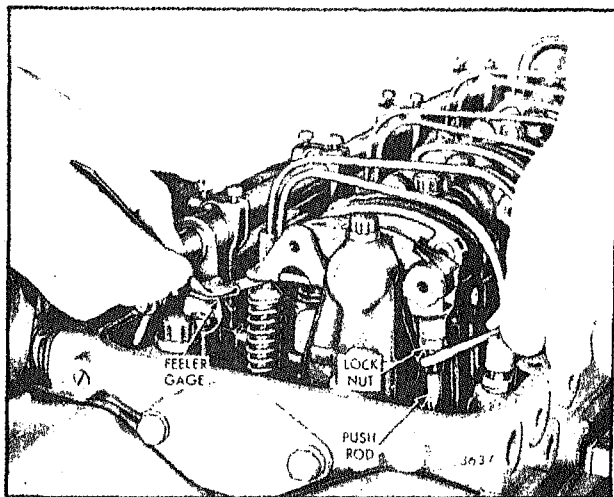

Fig. 2 - Adjusting Valve Clearance (Four Valve Head)
5. Place a .027 " feeler gage, J 9708, between the end of one exhaust valve stem and the rocker arm bridge (Fig. 2). Adjust the push rod to obtain a smooth pull on the feeler gage.